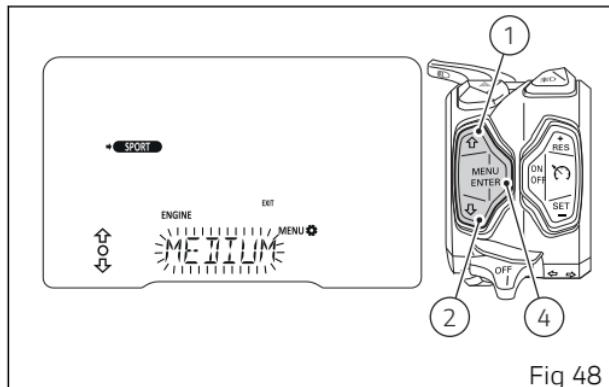

Fig 48
When entering the function, the currently set engine power ("HIGH", "MEDIUM" or "LOW") starts flashing (Fig 48). Use buttons (1) and (2) to select the new desired engine power and press button (4) to confirm.